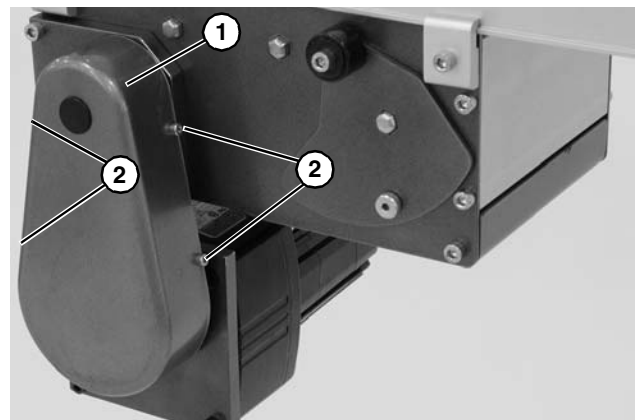

Figure 32
- Install cover (**Figure 32, item 1**) with four (4) screws (**Figure 32, item 2**). Tighten screws to 35 in-lb (4 Nm).